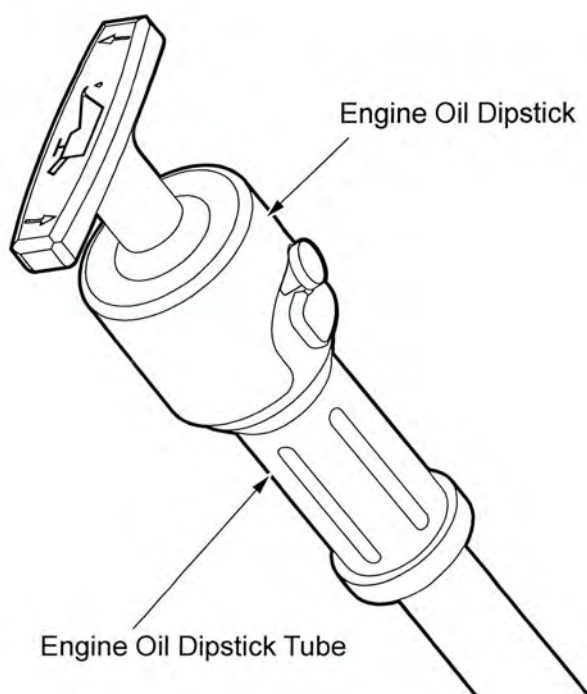

Figure 1
1. Starting at the rear of the vehicle's cab, locate the engine oil dipstick and tube (see Figure 1).